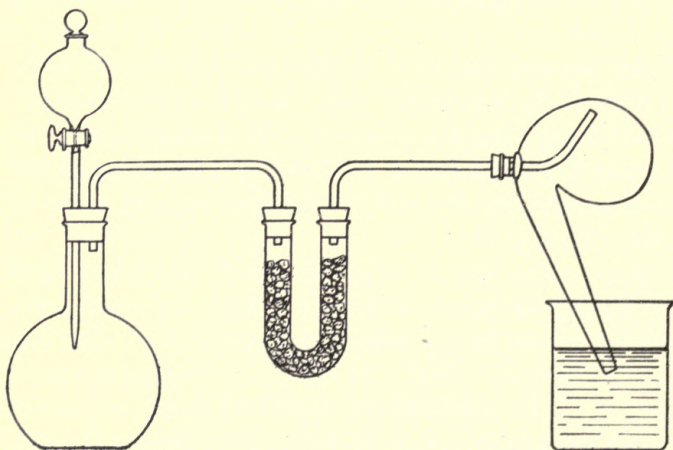

FIG. 13.
91. Arrange an apparatus as shown in Fig. 13, using a 250 cc. flask and a small beaker of water. The stem of the retort should barely dip beneath the surface of the water. Be sure that all connections are tight. Into the flask introduce 5 gms. of red phosphorus (P) and 20 cc. of water. The "U" tube should be filled with